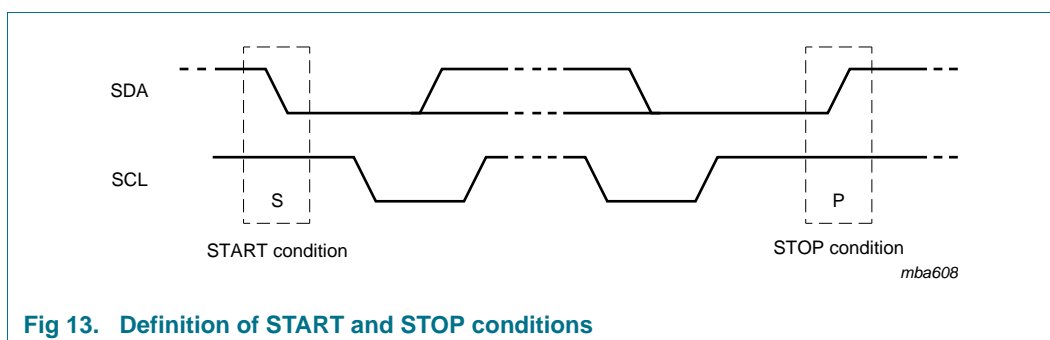

Fig 13. Definition of START and STOP conditions
Both data and clock lines remain HIGH when the bus is not busy. A HIGH-to-LOW transition of the data line, while the clock is HIGH is defined as the START condition (S). A LOW-to-HIGH transition of the data line while the clock is HIGH is defined as the STOP condition (P) (see Figure 13).